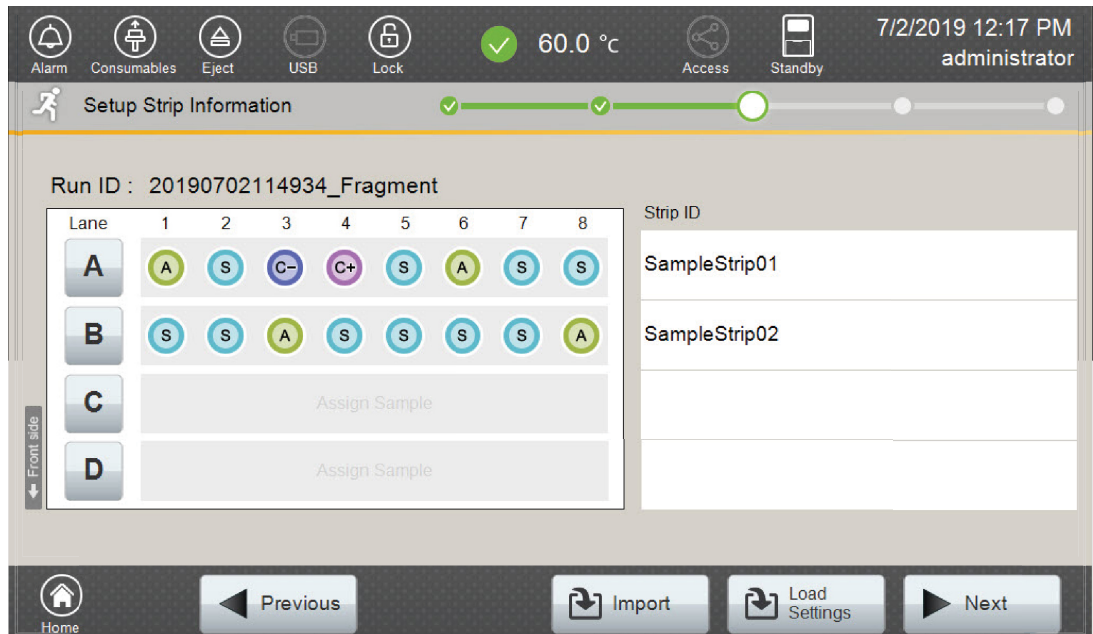

Figure 24. Completed 'Setup Strip Information' screen.
13. After all the required lanes have been set up, select **Next** on the 'Setup Strip Information' screen to load the sample cartridge (Figure 24).